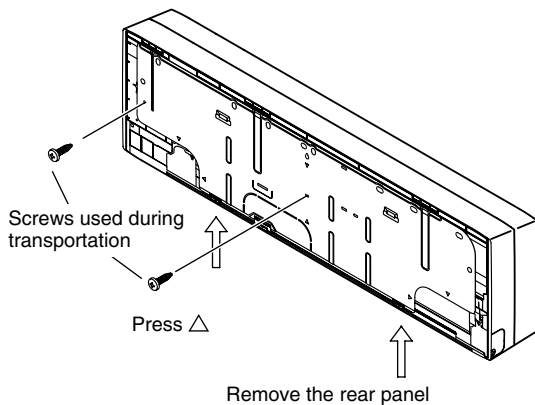

Fig. 3-13
- (1) Remove the set screws used to fasten the rear panel to the indoor unit during transportation.
- (2) Press up on the rear panel at the 2 locations shown by the arrows and remove the rear panel (Fig. 3-13).
To remove the indoor unit, press up on the 2 locations (△ marks) on the lower part of the unit frame to disconnect from the attachment tabs. Refer to Section 3-6. "Removing the Rear Panel from the Unit" (Fig. 3-13). Then lift up the indoor unit to remove.